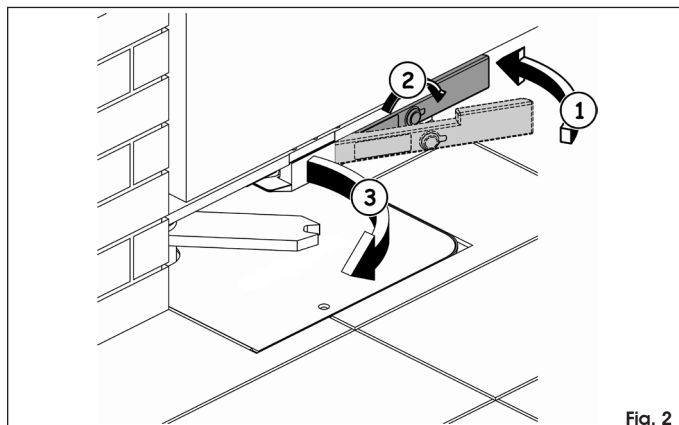

Fig. 2
- push the lever back into its home position (Fig. 2 rif. ①)
- insert the release key in the lock and turn it in the direction opposite the post, as far as it will go (Fig. 2 rif. ②)
- operate the leaf manually until the lock is engaged in the locking bracket (Fig. 2 rif. ③)